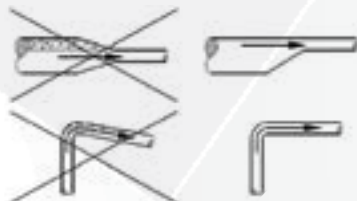

Figure 4
- Install the piping in such a way as to avoid airlocks, especially on the suction side of the pump. (Figure 4)